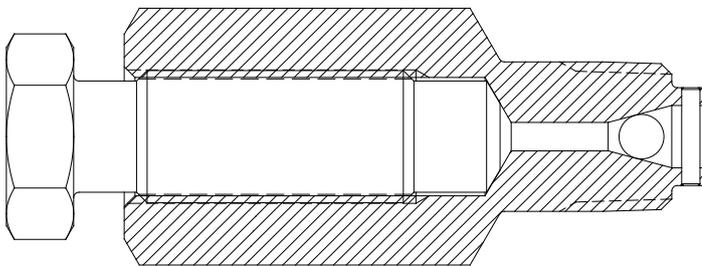
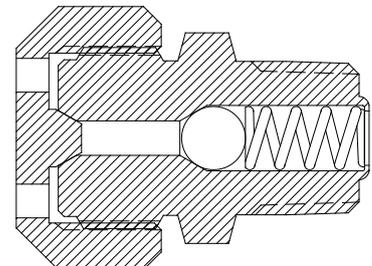

Figure 9
Figure 10
The geothermal wellhead gate valve is provided with three (3) combination injection fittings (see Figure 9) and three (3) grease fittings (see Figure 10) in the Assembly. Two (2) injection fittings are for emergency seat sealant injection (located on the middle of the valve body and either side of the gate) and another one on bonnet is for stem packing sealant injection. Three (3) grease fittings are provided for venting and draining the body cavity (located on the centerline of the body).
- a) Remove the plug in combination injection fitting (Figure 9). Manually inject sealant into both upstream and downstream sealant fittings while observing leakage.